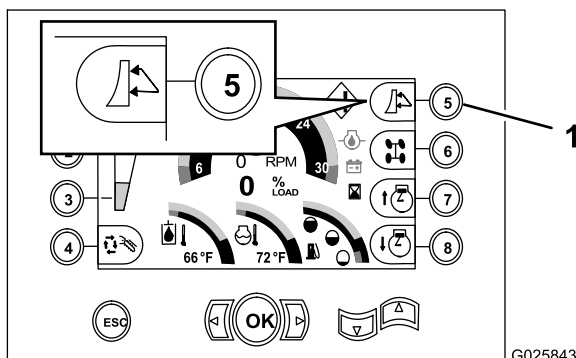

Figure 46
1. Switch the machine to the backfill blade function by pressing button 5 on the command center until the icon for the backfill blade appears (Figure 46).